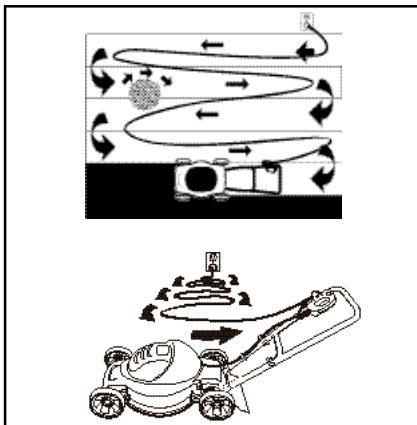

FIGURE 8
## EXTENSION CORD TO ELECTRICAL OUTLET (FIGURE 8)
2. Start in direction where extension cord side of mower is closest to the outlet. Begin mowing in the area closest to the outlet and mow in a back and forth manner. Note the cord is kept on cut portion of lawn and out of the path of the mower. (Figure 8)